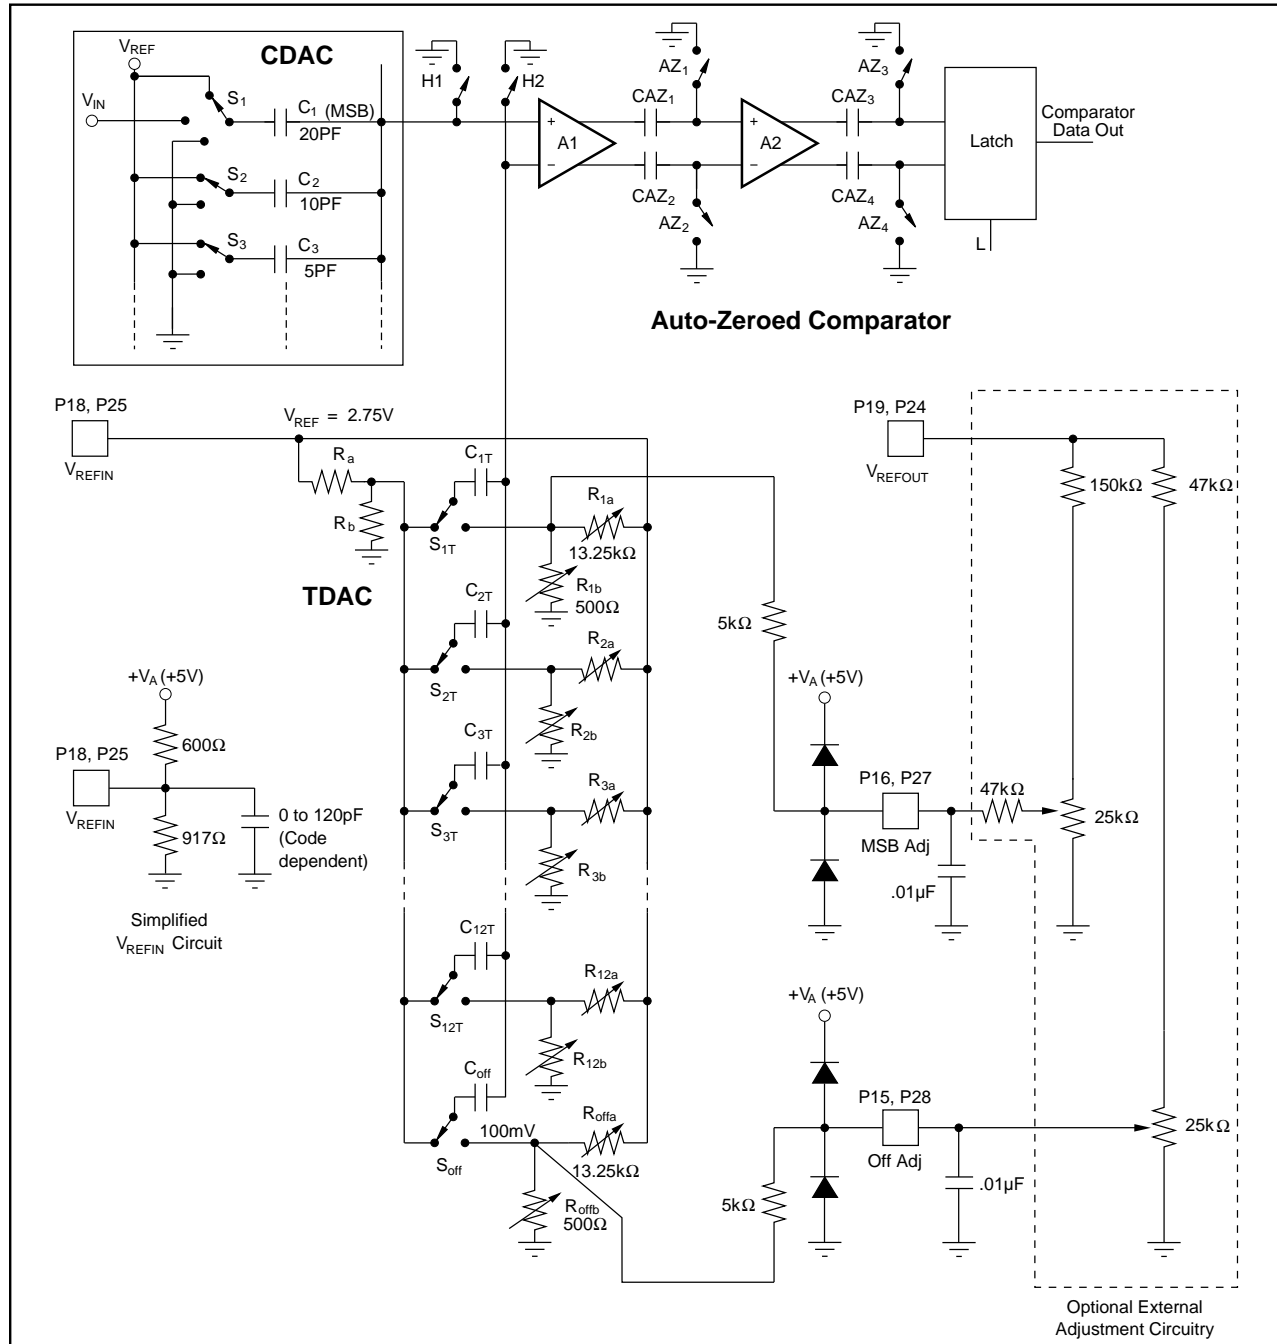

FIGURE 1. PCM1750 Simplified Circuit Diagram.
NOTES: (1) Binary Two's Complement coding. (2) The PCM1750 is tested and guaranteed at 5.2 μs , however it will operate at 4.5 μs . The dynamic performance is not guaranteed or tested at this conversion rate. (3) Ratio of $Signal_{RMS} / (Distortion_{RMS} + Noise_{RMS})$. (4) A/D converter sample frequency (4 x 48kHz; 4X oversampling per channel). (5) A/D converter input frequency (signal level). (6) Referred to input signal level. (7) Ratio of $(Distortion_{RMS} + Noise_{RMS}) / Signal_{RMS}$. (8) Externally adjustable to zero error. (9) Differential non-linearity error at bipolar major carry input code. Externally adjustable to zero error. (10) Full scale range (5.50V). (11) Refer to equivalent circuit in Figure 1. (12) Worst case operating condition. Refer to typical performance curves.
After each conversion, the dual ADC returns to the SAMPLE mode in order to track the input signals. The switches shown in the simplified circuit diagram of Figure 1 will then be in the following states: S1 connects V_{IN} to C1 ; S2 to S18 connect C2 to C18 to V_{REF} ; H1 and H2 connect the top plates of the capacitor arrays to analog common; and the latching comparator is switched into its auto-zero mode by closing AZ1 to AZ4. Notice that C1 serves two purposes: it samples and stores the input signal V_{IN} and it is the MSB of the CDAC. Storing V_{REF} on C2 to C18 creates a bipolar offset, enabling V_{IN} to cover a span from $-V_{REF}$ to $+V_{REF}$.
occurs during the SAMPLE period (see the timing diagram shown in Figure 2). These errors are stored on the AC coupling capacitors (CAZ1 to CAZ4, shown in Figure 1) between the gain stages. During the SAMPLE period the inputs to gain stages A1 and A2 and the latch are grounded by switches H1, H2, and AZ1 to AZ4. Capacitors CAZ1 and CAZ2 track the amplified offset voltage of gain stage A1 and capacitors CAZ3 and CAZ4 do the same for A2. At the beginning of a conversion cycle, the autozeroing switches open and the instantaneous amplified value of both the DC offset voltage and the low-frequency flicker noise is stored on the coupling capacitors to produce zero comparator offset during a conversion cycle.
analog common (see Figure 1). This terminates the comparator auto-zero cycle and simultaneously switches (co-phase sampling) both converters from tracking their respective input signals into the HOLD mode, thus capturing the instantaneous value of V_{IN} (with a small delay specified as the aperture time).
Operation of the TDAC (trim DAC), which is laser trimmed at the wafer level, is described using bit-1 as an example. Switch S1T (see Figure 1) operates between two voltage levels—a reference level set by voltage divider Ra, Rb and a laser trimmable level set by R1a, R1b. The differences of these two levels is coupled by capacitor C1T to the minus input of the comparator to generate a correction voltage for